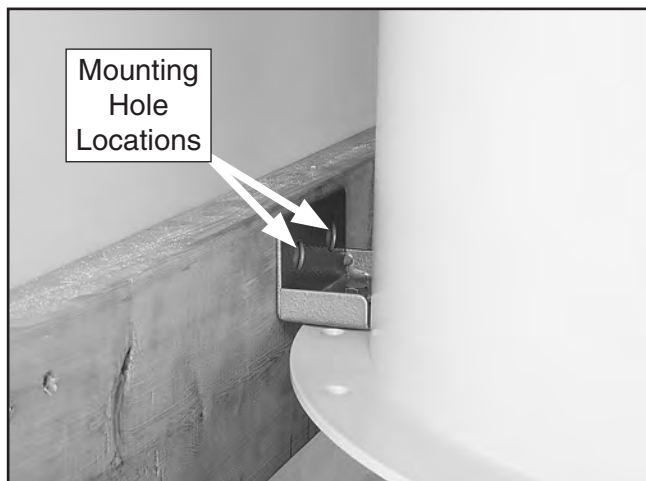

Figure 14. Intake barrel brace positioned to mark the mounting holes.
6. Place the intake barrel brace in position and mark the location of the mounting holes (shown in **Figure 14**) with a small pencil, nail, or push pin.